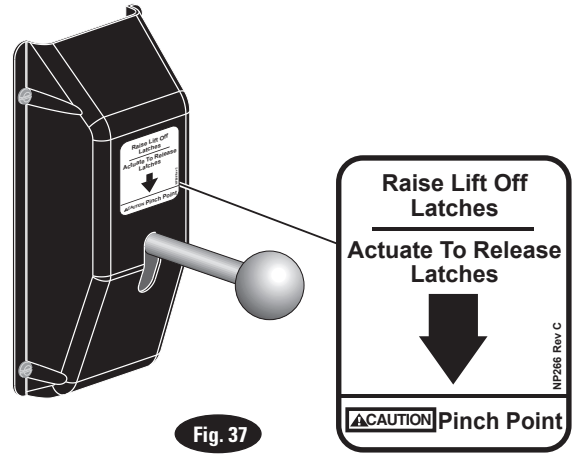

Fig. 37
26. Latch Release Decal: Install latch release decal on cover above latch release handle, Fig. 37.